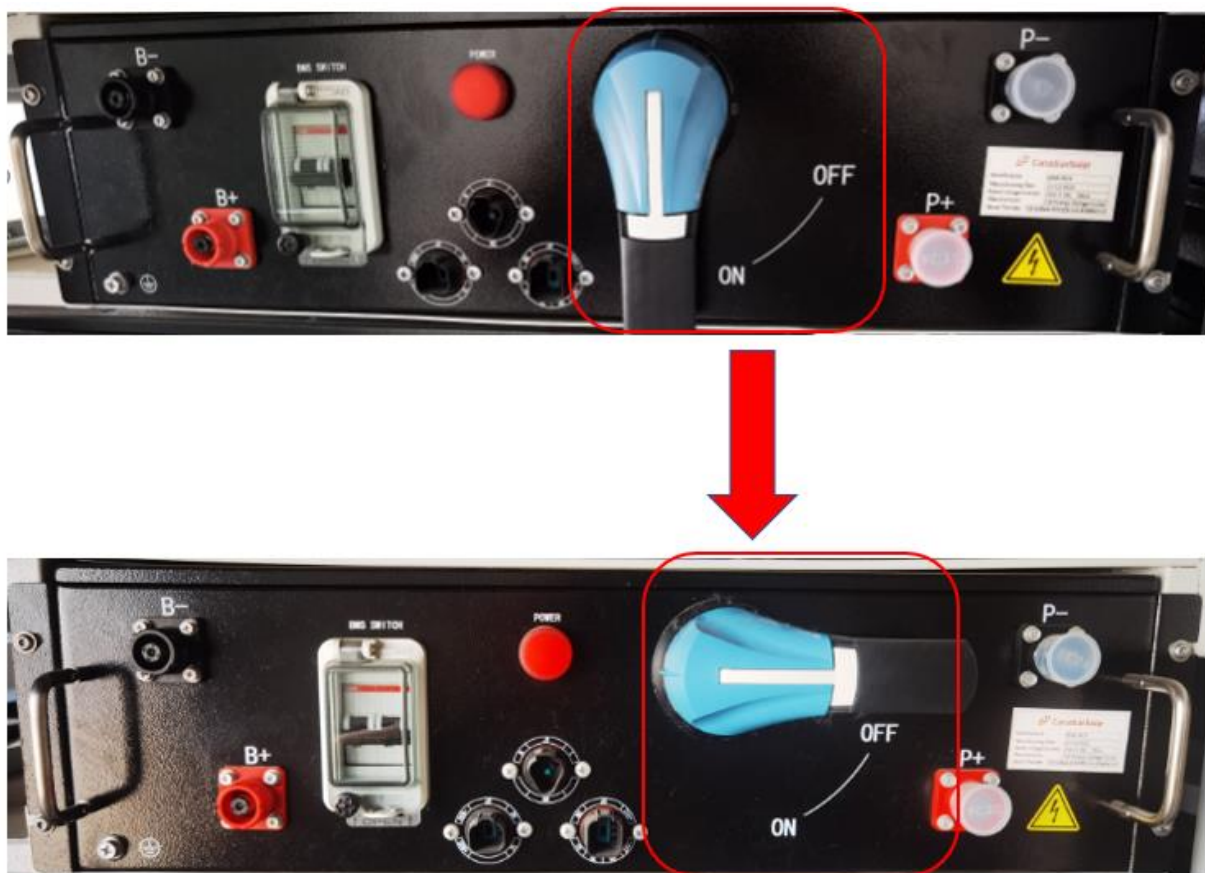

Figure 6. BMS Box
- ✓ **Step 1:** Turn the rotary disconnect switch located on the front panel of the BMS Box from ON to the OFF position. Refer to Figure 6 below.